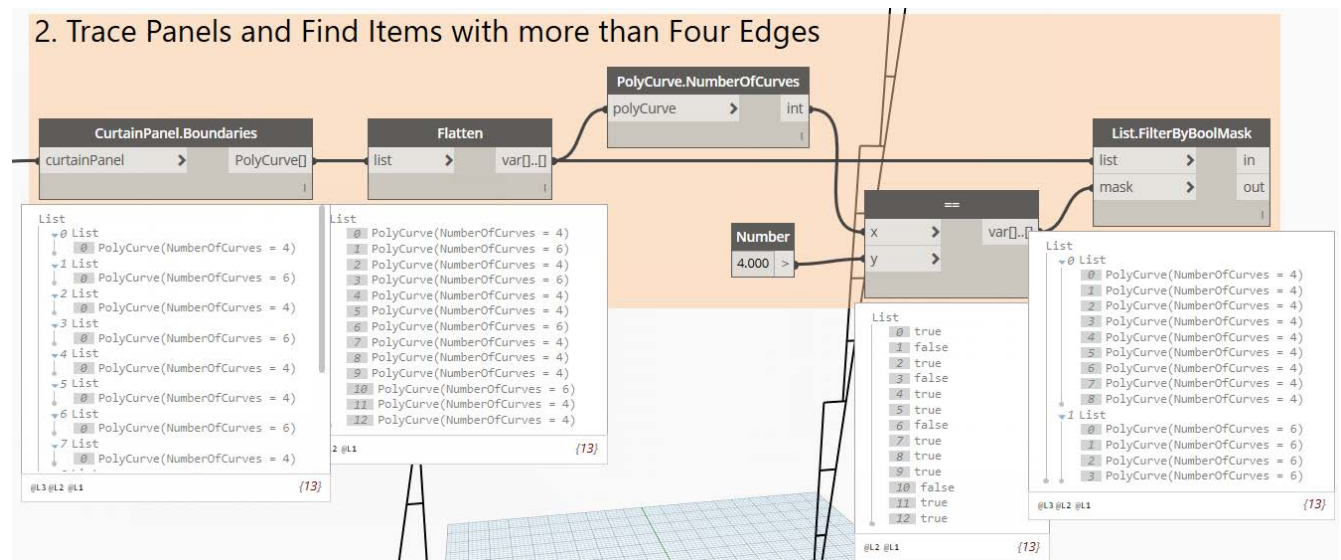

Figure 73
26. Feed the output of the **Flatten** node (Our list of PolyCurves) into the list input (see Figure 73).